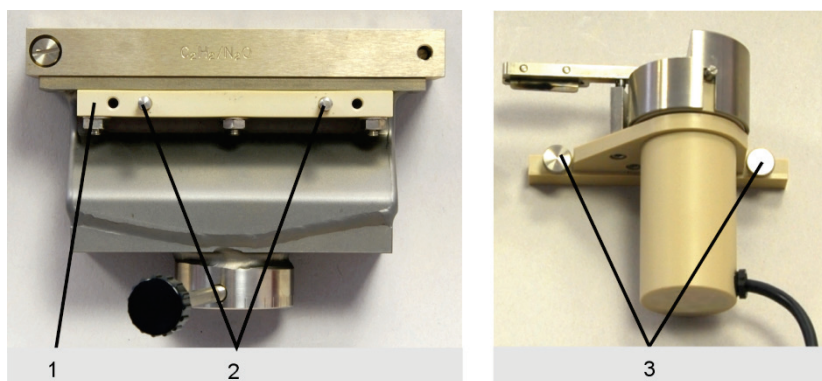

Fig. 46 Fastening rail mounted on burner/knurled screws on the scraper
2. Unscrew the fastening rail (1 in Fig. 46) with knurled screws (2 in Fig. 46) from the scraper.
4. Attach the scraper to the guide pins of the fastening rail (2 in Fig. 46) and tighten with knurled screws (3 in Fig. 46).